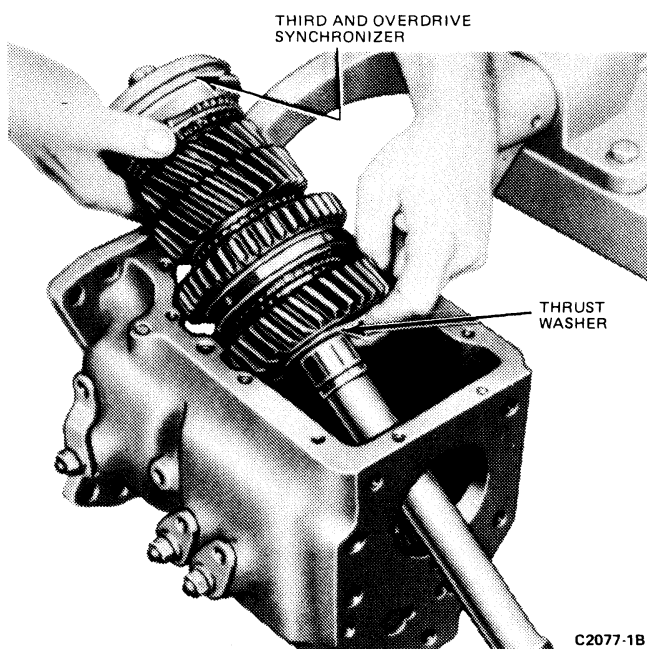

FIG. 10 Removing and Installing Output Shaft Assembly
18. Support the thrust washer and first-speed gear to prevent them from sliding off the shaft, then lift the output shaft assembly from the case as shown in Fig. 10.
22. Support the thrust washer and first-speed gear to prevent them from sliding off the shaft and carefully lower the output shaft assembly into the case as shown in Fig. 10.